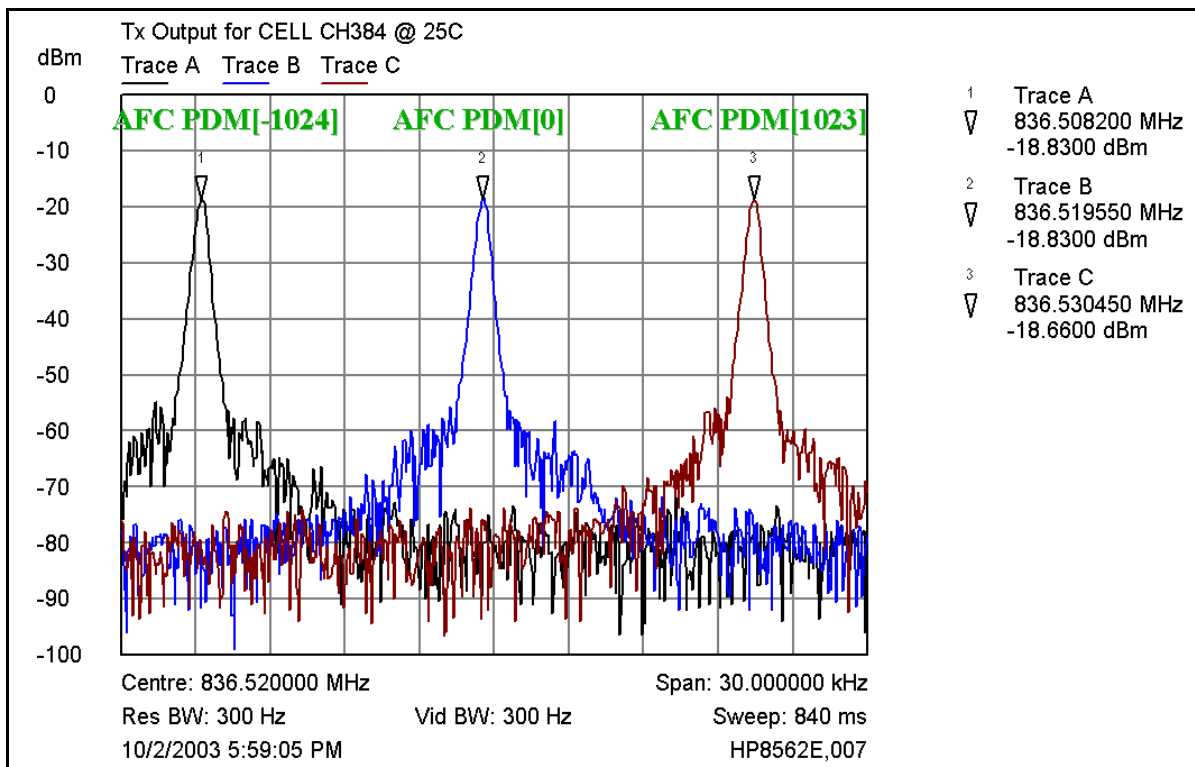

Figure 48: Tx Output for Cell channel 384, power level 5
2. Measure the DC voltage at R7201. The following typical voltages are shown in Figure 48.